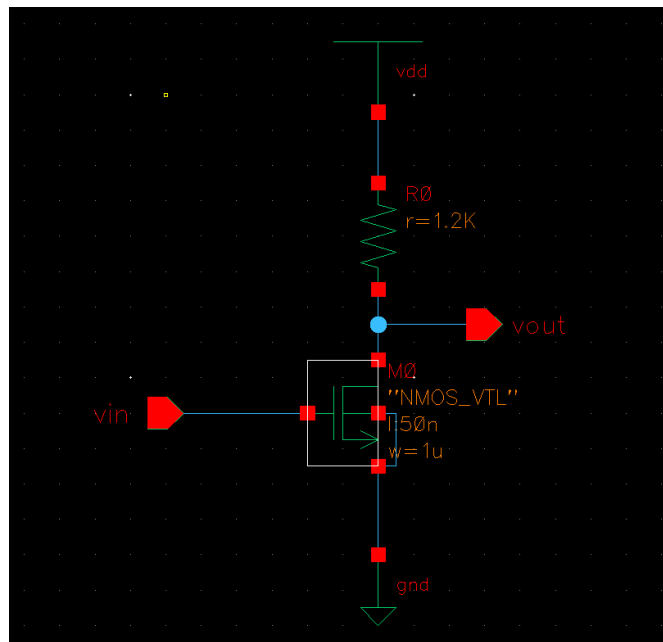

Figure 4: Virtuoso - NMOS Inverter Schematic
3. Connect the components as in Figure 4 below. (Do not forget to connect bulk of NMOS transistor with ground.)